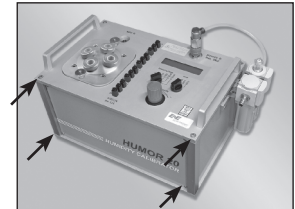

Fig. 1
2. Loosen the screws (see Fig. 1).